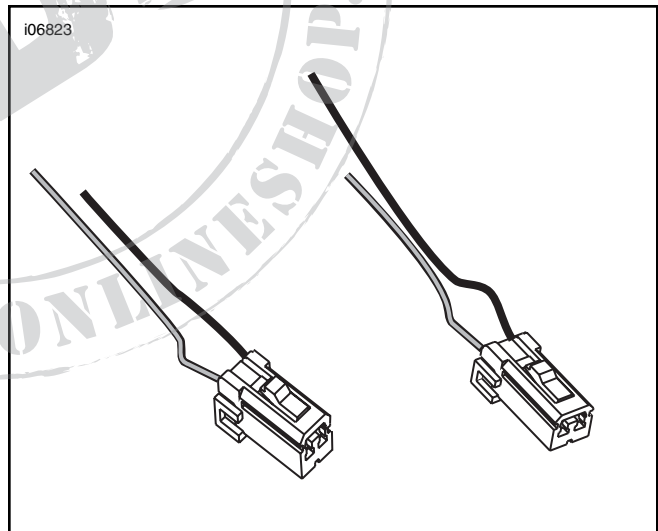

Figure 1. Cut Wire Ends with Connectors
3. See Figure 1. Cut both the black (BK) and violet and brown (V/BN) wire 4 to 6 in. (10.2-15.2 cm) from the connector. Save the cut wire ends with the connector.